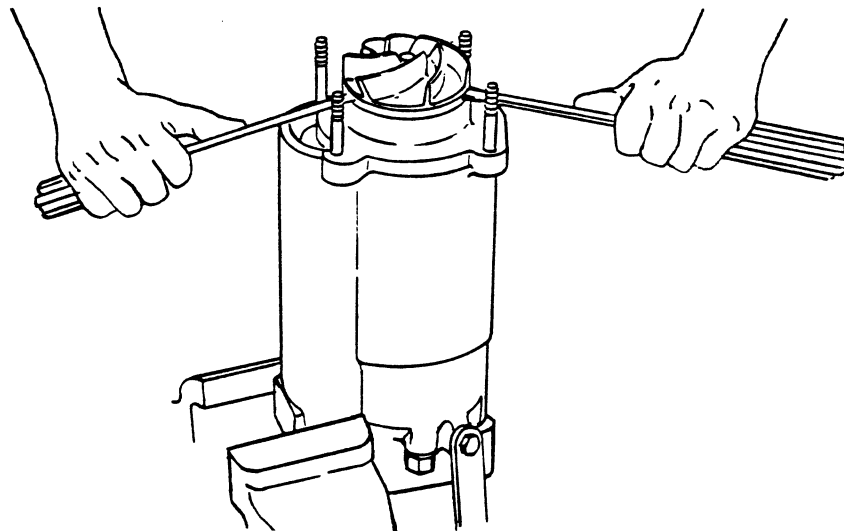

Figure 3. Removing Pump Impeller
Wedge a piece of wood between one of the vanes of impeller (2) and a stud (17) to prevent shaft rotation. Unscrew the impeller nut (2) and remove the flat washer (22). Pry off the impeller using two screwdrivers as shown in Figure 3 and remove key (20).